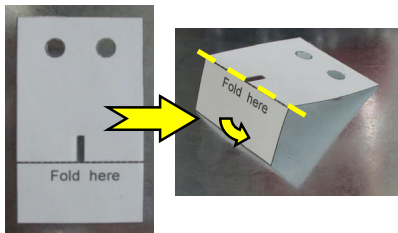

Figure 2
1. Fold the screw hole marking guide as shown in figure 2.